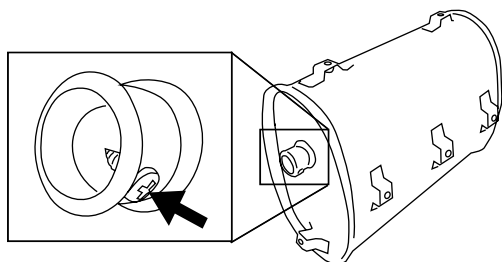

Figure 15: Remove spark arrestor
1. Once the cover is removed, locate the screw on the tip of the muffler and remove. Pull the spark arrestor out of the muffler. (see Figure 15).